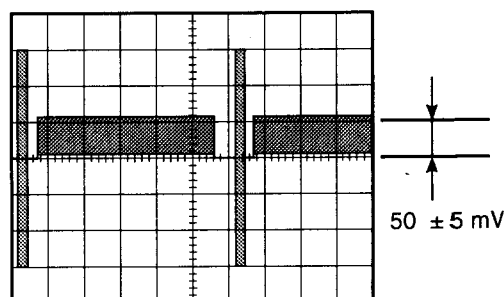

Fig. 5-10
- Adjust data with the **ARROW** keys so that the Pedestal level becomes 50 $\pm$ 5 mV as shown in Fig. 5-10.